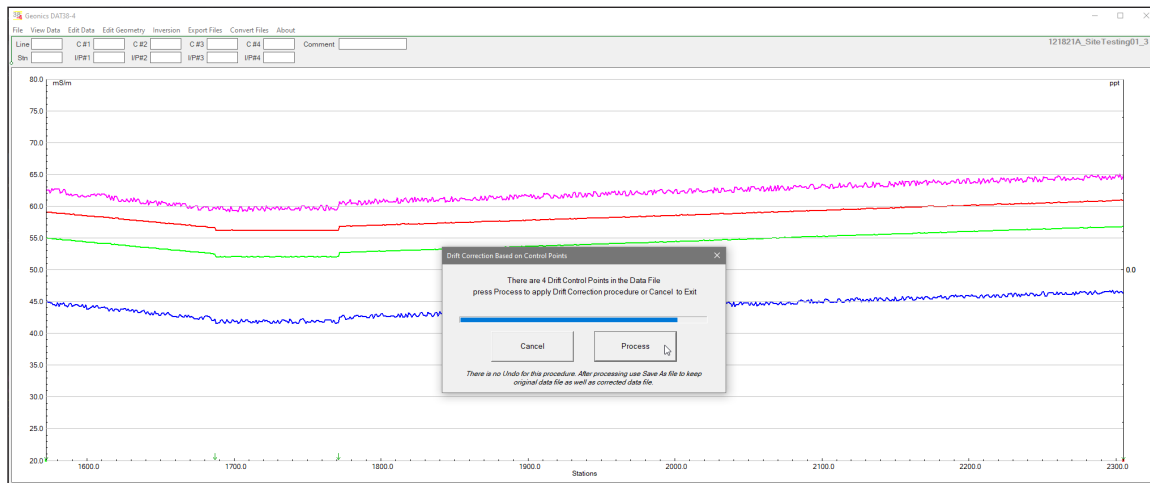

Figure 4.14 DAT38-4 screen during Drift Correction procedure
4. Click the **Process** button to start the correction; a progress bar indicates the procedure's progress (Figure 4.14). The duration depends on the data file's size.